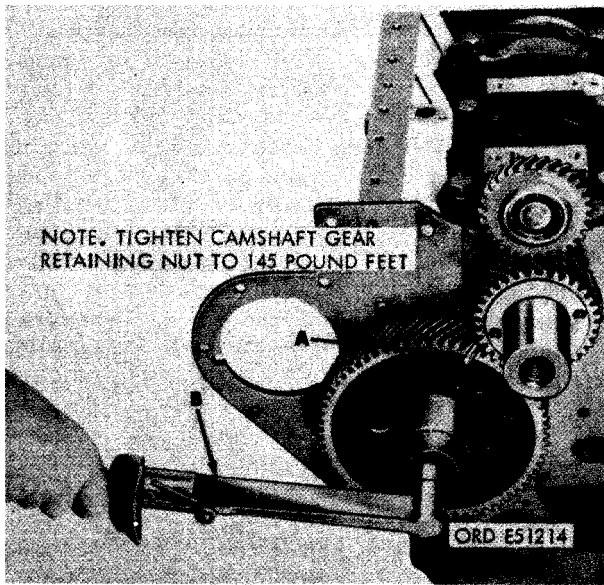

FIGURE 472. TIGHTENING CAMSHAFT GEAR RETAINING NUT.
- (2) Figure 472. (A) Position a brass rod between the teeth of the camshaft gear and the crankshaft gear to hold gears from rotating. (B) Install camshaft gear retaining nut and tighten to 145 pound feet, using a torque wrench. Remove brass rod after camshaft retaining nut is properly torqued.